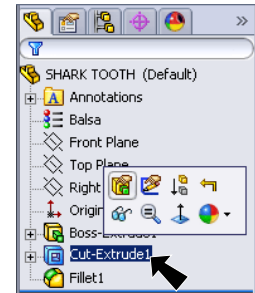

Fig. 32
Step 1. Click **Cut-Extrude1** in the Feature Manager and click **Edit Feature**  in the menu, **Fig. 32**.